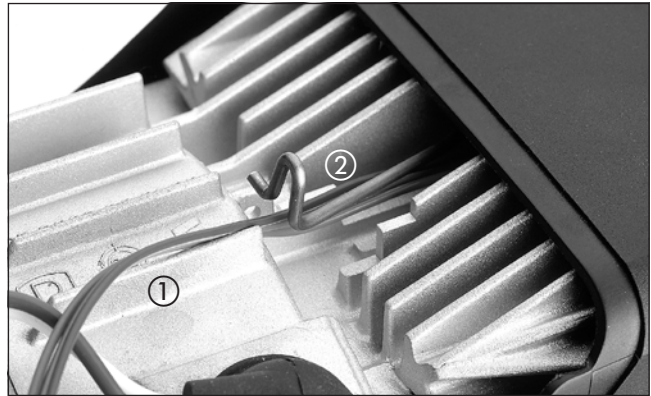

Figure 5
**Dismantle combination sensor (overheating / flame sensor)** (see Figure 5)